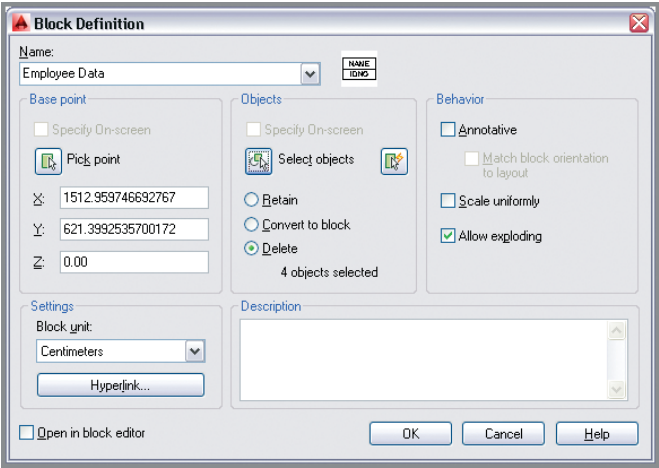

FIGURE 15.11 Defining a block with attribute definitions
14. Click the Select Objects icon, click the NAME attribute definition, and then click IDNO. Select both rectangles, and press Enter. Click the Delete radio button in the Objects area of the Block Definition dialog box, and select Inches (or Centimeters) in the Block Unit drop-down menu (see Figure 15.11). Click OK and the attribute definitions and geometry disappear as expected.